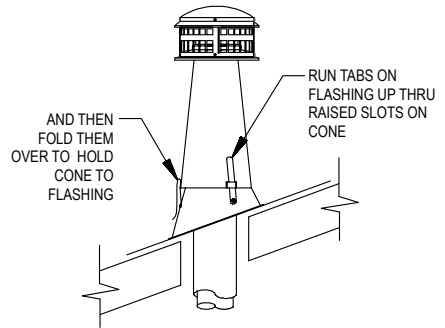

Figure 18
6. Top Cone. Slip the Top Cone over the Flashing, so the vertical straps on the Flashing coincide with the slots at the base of the Cone. Slip the straps up through the slots as shown in **Figure 18**. Adjust the Top Cone to a generally vertical position. Holding the Top Cone in position, bend the straps down as shown.